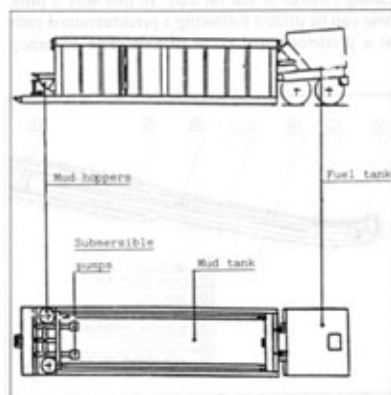

Figure 6. Mud mixing unit
- Mud tank/mixing unit, capacity 38m3. (See Figure 6).